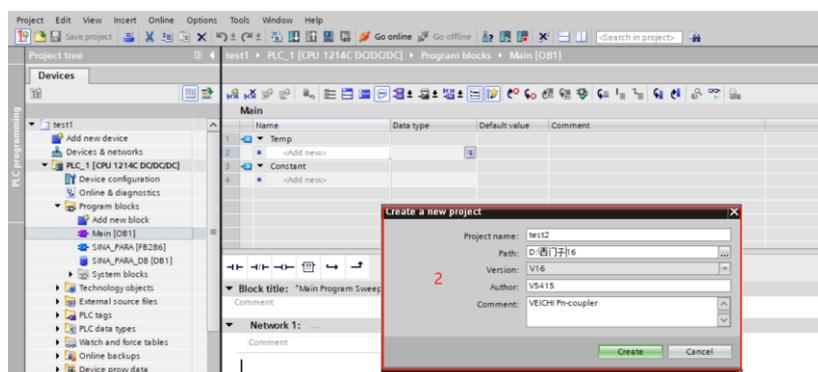

Figure 1 New project
1. Open TIA-PortalV16, "Project" - "Create new project" as shown in Figure 1.